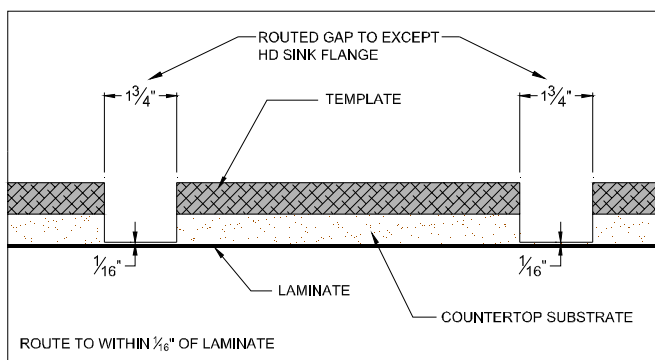

Figure 9C
- Index a 3¼ HP or 2½ HP plunge router with a 1½" x 1" top bearing flush trim router bit to remove the substrate. (FIG. 9C)